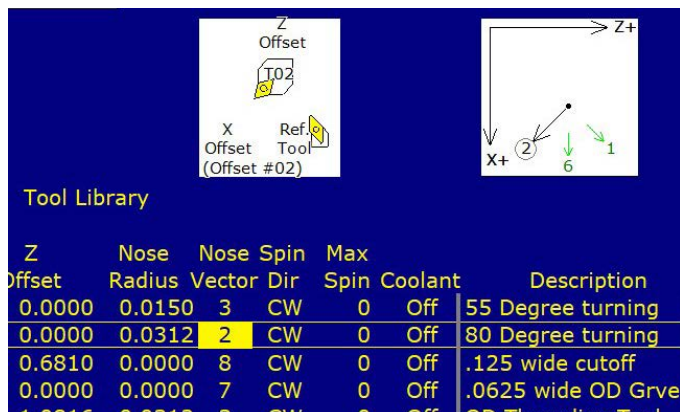

FIGURE 15
3. If you highlight a turning tool with a “Rear Approach,” the nose vectors (2, 6, & 1) will be shown for your choices (see Figure 15).